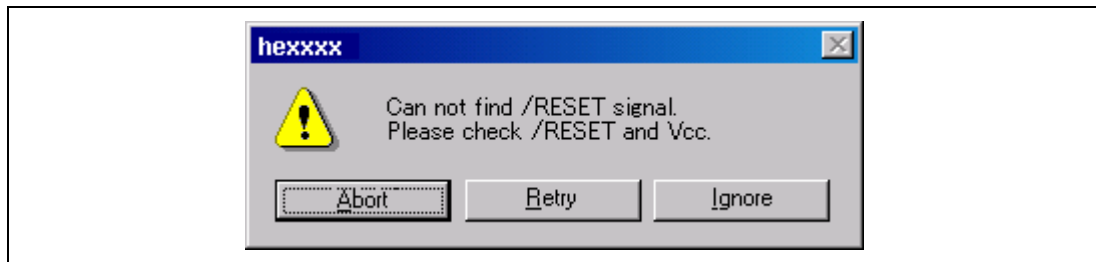

Figure 4.15 [Can not find /RESET signal] Dialog Box
3. If the emulator is not initiated, the following dialog boxes shown in figures 4.15 through 4.18 will be displayed.
- (a) If the following dialog box is displayed and method (2) of 'Debugging without any connection to the EV-chip unit' above is unavailable, the power of the user system may not be input or the RESET signal may not be input to the device. Check the input circuits for the power of the user system and the reset pin.